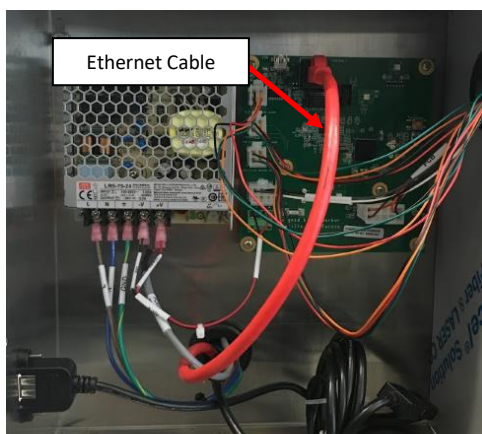
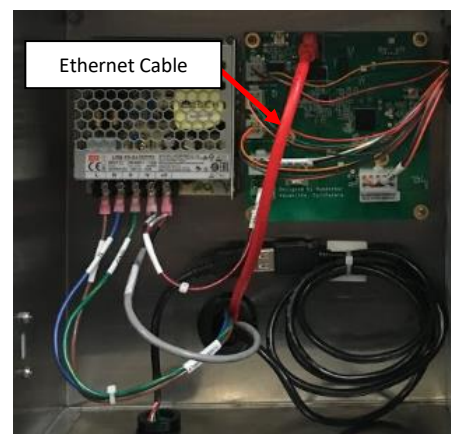

Figure 18a: Ethernet Cable Shown-Old Configuration.
Figure 18b: Ethernet Cable Shown-New Configuration.
2. Remove the Rear Enclosure Cover to verify the Ethernet Cable is plugged into the PCB. **See Figure 18a and Figure 18b.**